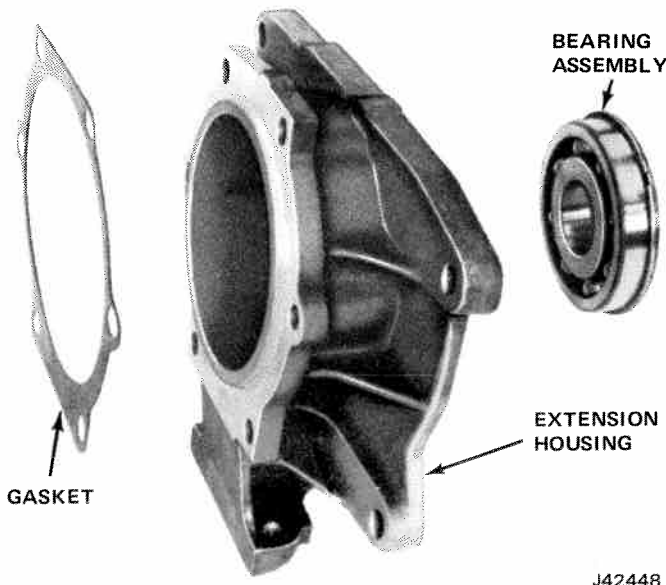

Fig. 7-18 Extension Housing Assembly
- (1) Remove snap ring from output shaft sleeve.
- (2) Remove gear.
- (3) Remove output shaft sleeve-to-bearing snap ring.
- (4) Remove output shaft sleeve from bearing.
- (5) Remove bearing-to-case extension snap ring and remove bearing.
- (6) Remove the two seals if necessary. Refer to fig. 7-18.
- (7) Inspect sleeve, splines, and snap ring groove for damage. Inspect bearing.